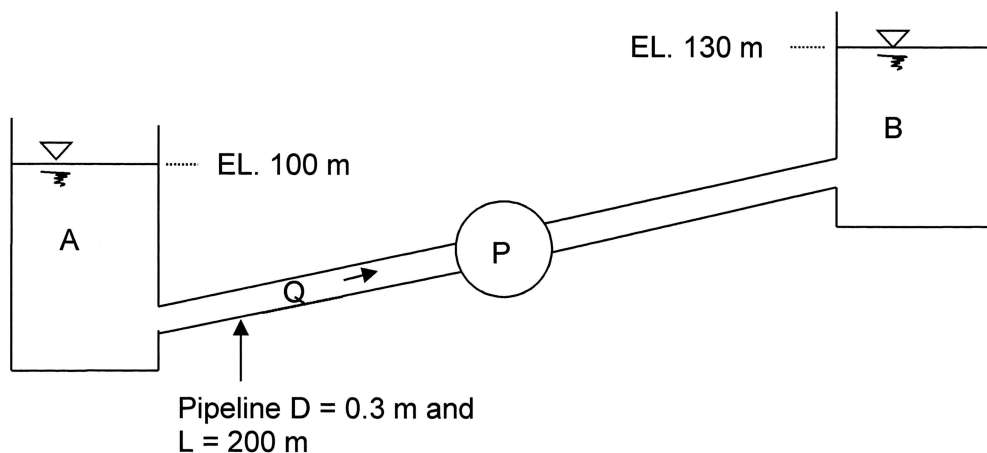

Figure Q3
- (d) Figure Q3 shows water is pumped from Reservoir A (Elevation, EL = 100 m) through a pipeline (diameter, $D = 0.3 \text{ m}$, and length $L = 200 \text{ m}$) to a hilltop Reservoir B (EL = 130 m).